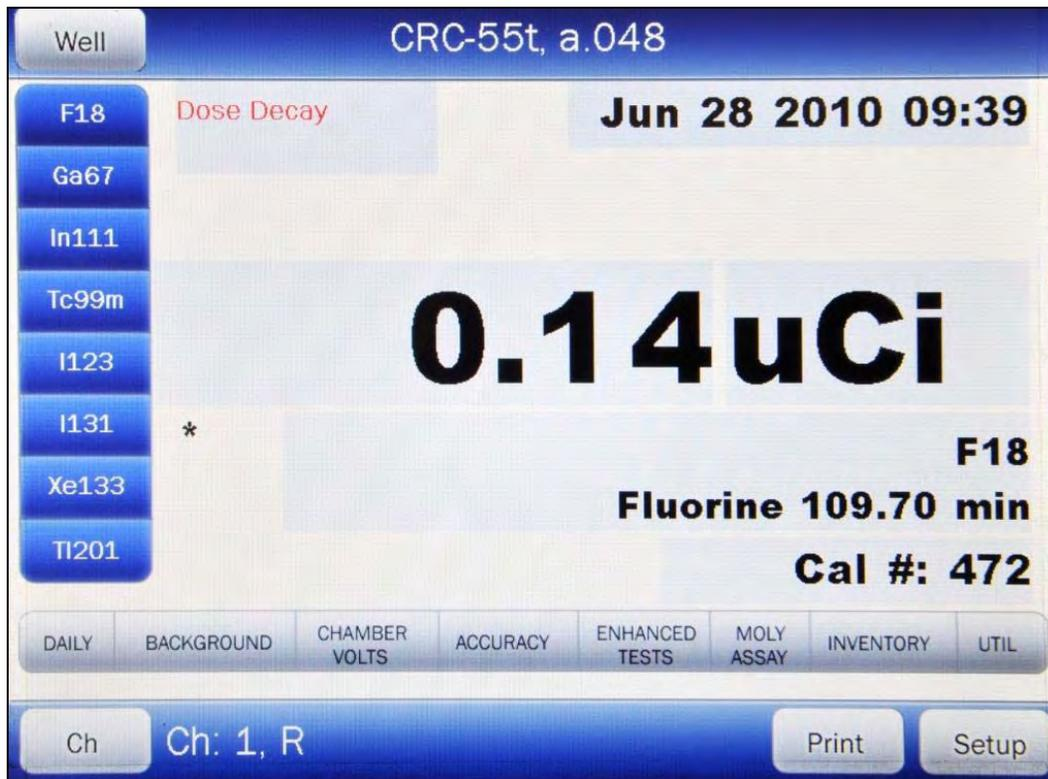
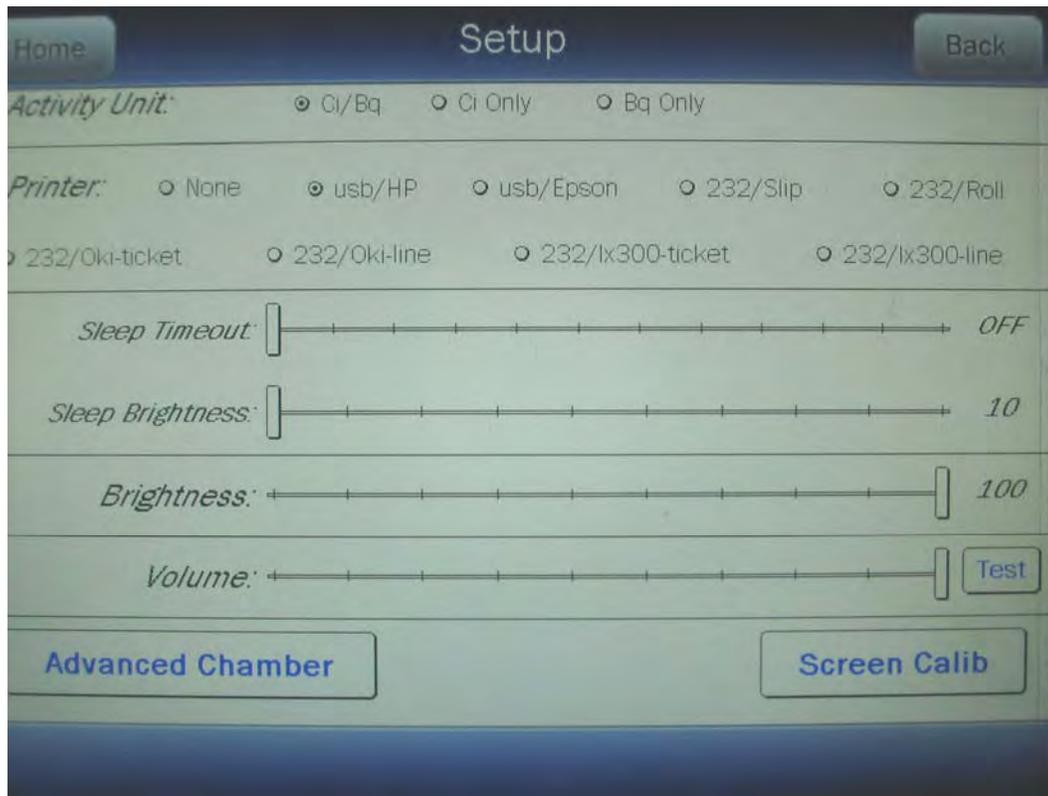
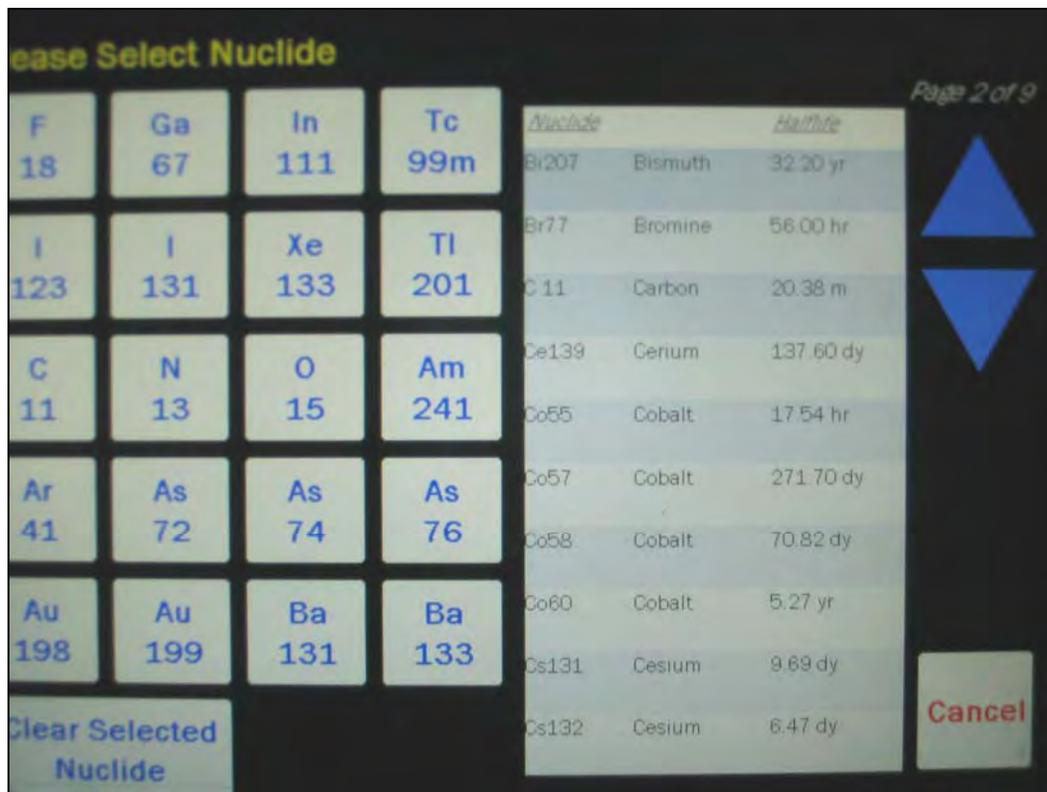

Figure 6-1 Chamber Measurement Screen
Figure 6-2 Setup Screen
Figure 6-7 Select Nuclide Screen
- Home screen..... These are the eight isotope buttons located at the left edge of Figure 6-1 Chamber Measurement Screen. Touching one of these buttons selects the programmed nuclide for measurement.
- Select Nuclide screen These are the 20 buttons on the left half of Figure 6-7 Select Nuclide Screen. Touching one of these buttons selects the programmed nuclide.
The Home Screen Hotkeys on Figure 6-1 Chamber Measurement Screen are populated by default with the following nuclides:
Touch the **SETUP** button located on Figure 6-1 Chamber Measurement Screen. Figure 6-2 Setup Screen will appear.
The left side of the screen displays a list of isotopes titled “Home Screen”. These are the eight Chamber Hotkeys that are displayed on the left side of Figure 6-1 Chamber Measurement Screen. The isotopes shown under the title “Nuclide Screen” are the 20 preset **NUCLIDE** buttons that are displayed on Figure 6-7 Select Nuclide Screen.
To change the assignment of a Home Screen Hotkey, touch the desired isotope field box in the Home Screen column. Figure 6-7 Select Nuclide Screen will appear.
The Select Nuclide Screen Hotkeys on Figure 6-7 Select Nuclide Screen are populated by default with the following nuclides:
To change the assignment of a Select Nuclide Screen Hotkey, touch the desired isotope field box in the Nuclide Screen section. Figure 6-7 Select Nuclide Screen will appear.